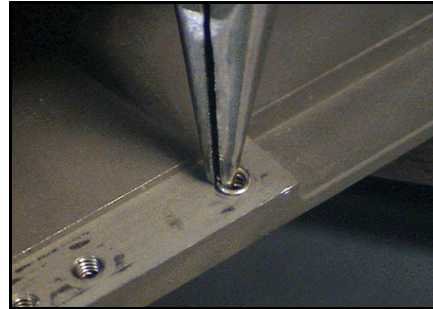
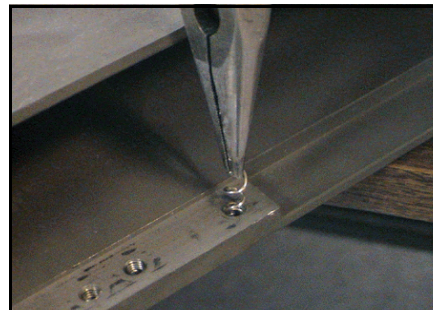

Figure 3: Hold HeliCoil with Pliers
Figure 4: Remove HeliCoil
2. Using a pair of needlenose pliers, remove the HeliCoil from the hole. (See *Figure 3* and *Figure 4*).